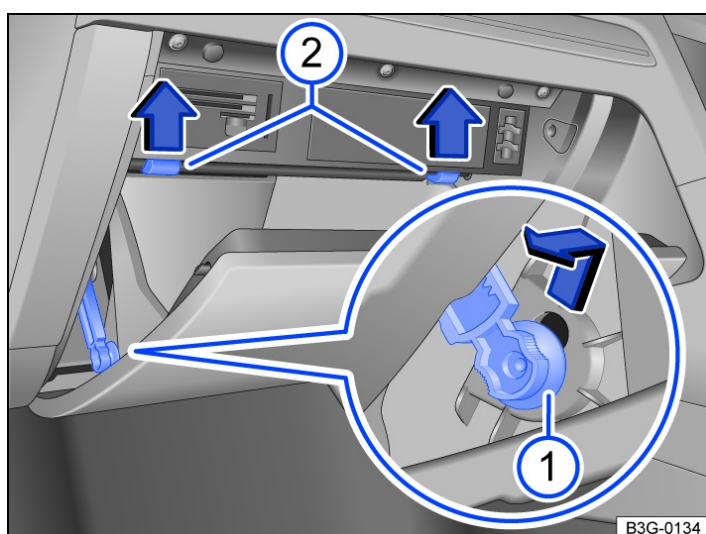

Fig. 2 Fuse box cover in the dash panel: right-hand drive vehicle, on the front passenger side.
- Push damper element upwards into the opening of the holder and pull out to the side → Fig. 2 ①.
- Push catches upwards in the direction of the arrow at the same time open the stowage compartment further → Fig. 2 ②.
- To *install*: move the stowage compartment into position. Insert the damper element into the opening in the holder and slide upwards until it engages audibly. Carefully push the stowage compartment forwards beyond the resistance of the catches → Fig. 2 ②.